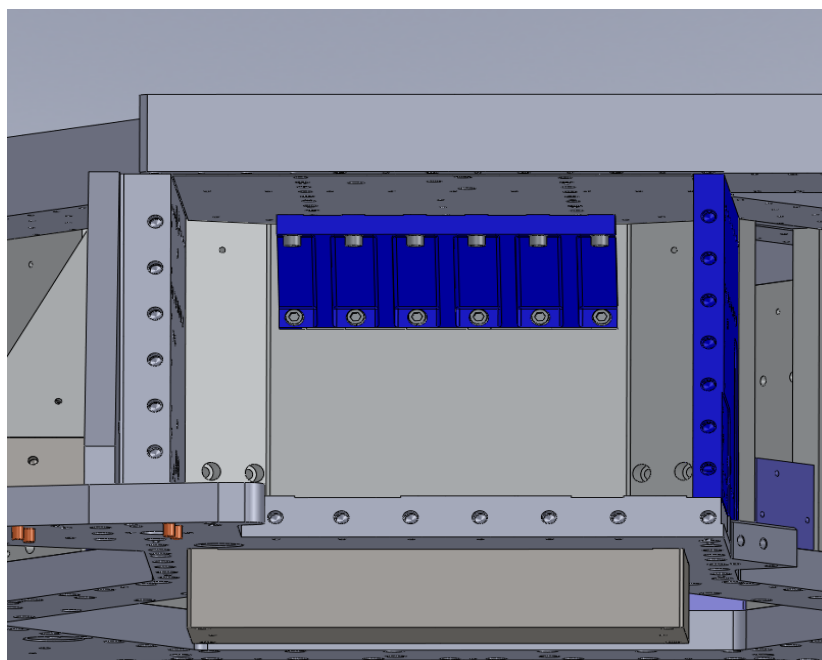

Figure 79: D0902443 Stage 1 Back Rib
(6) 3/8-16 x 1.5" SHCS – MSC 75464669 – into D0902273 Stage 1 Close Out Plate
(12) 3/8 Vented Washers - UCC-WFV-38
- Locate D0902443 Stage 1 Back Rib on D0902271 Angled Hex Wall & D0902273 Stage 1 Close Out Plate as shown on Figure 79.